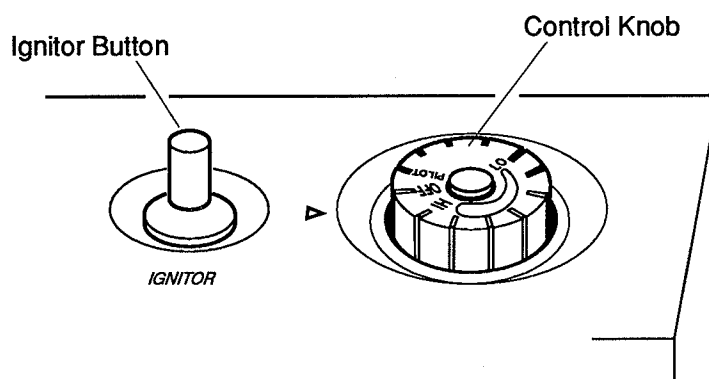

Figure 14 - Control Knob In The OFF Position
4. Wait five (5) minutes to clear out any gas. If you then smell gas, STOP! Follow "B" in the safety information at the top of page 13. If you don't smell gas, go to next step.
5. Turn control knob counterclockwise  to the PILOT position. Press in control knob for five (5) seconds (see Figure 14).